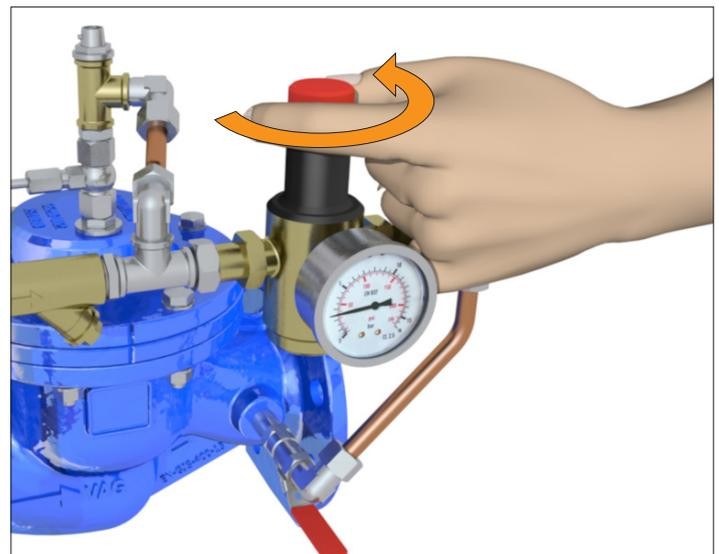

Figure 6: Releasing the tension of the spring
2. Completely release the tension of the spring of the pilot valve by turning the adjustment red handwheel counter-clockwise (see Figure 6). This can be done manually by hand .
8. Now the desired downstream pressure can be adjusted. For adjustment turn the adjustment handwheel of the pilot valve slowly clockwise until the required pressure level is reached (see Figure 6). To see whether the pressure is correct, check it on the downstream pressure gauge.